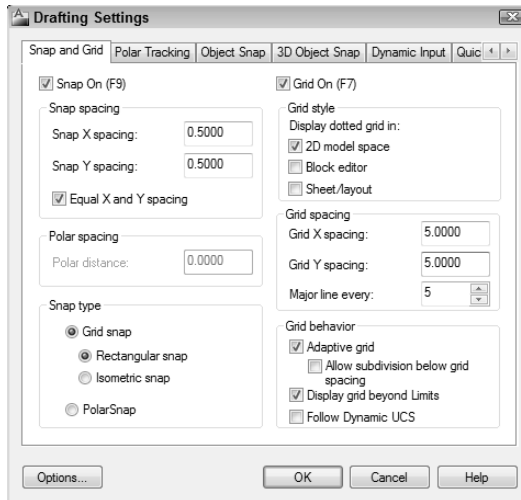

Figure 3-3:
The Snap and Grid tab of the Drafting Settings dialog box appears, as shown in Figure 3-3. (Note that AutoCAD LT lacks some options that are present in the full version of AutoCAD.)
9. Change the values in the dialog box so it looks like Figure 3-3: